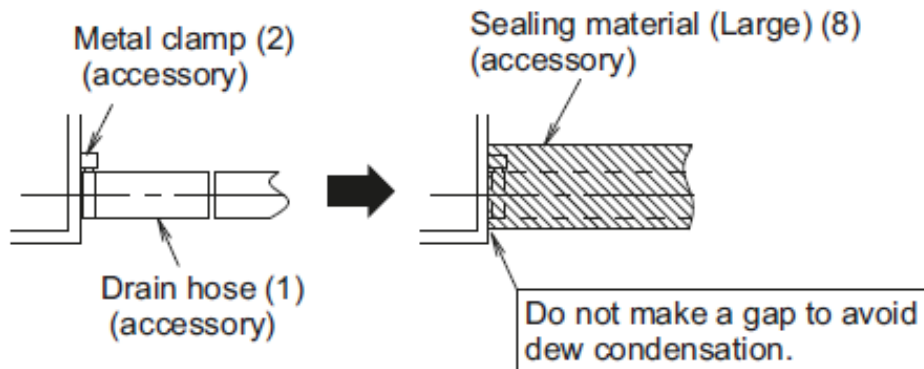
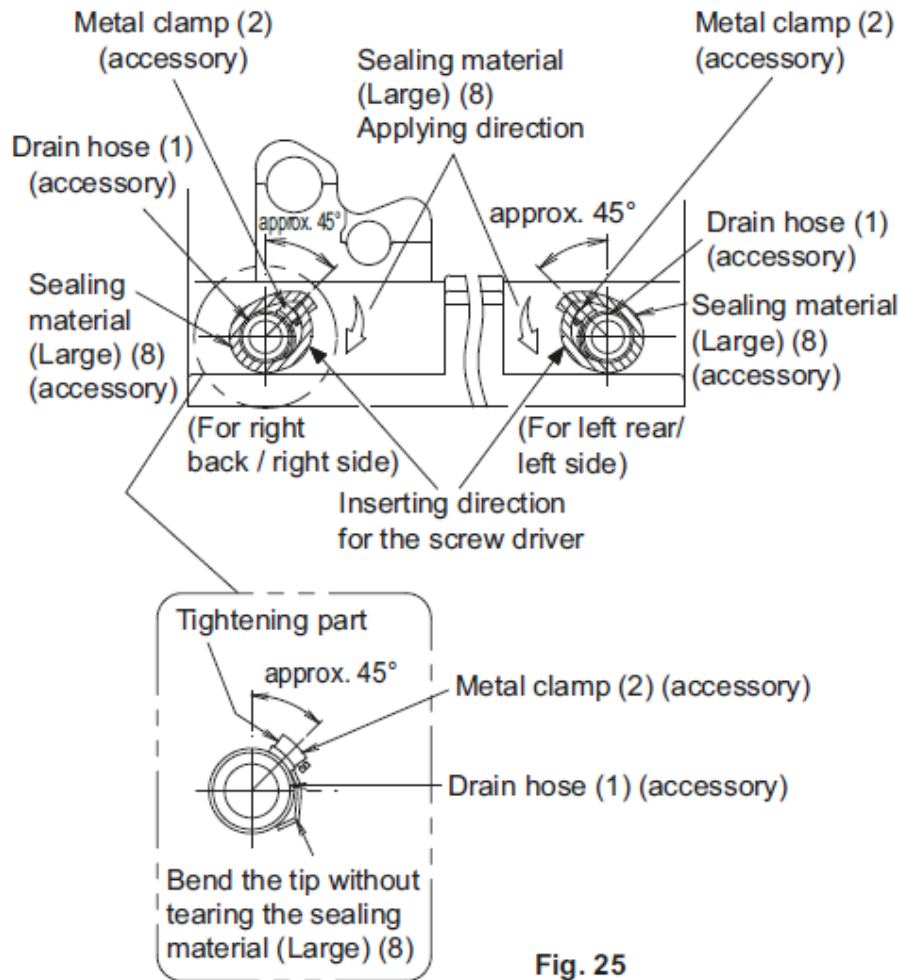

Fig. 24
Fig. 25
- Make sure to use the attached drain hose and metal clamp. Also, insert the drain hose into the root of the drain socket, and tighten the metal clamp at the root of the drain socket tightly. (Refer to Fig. 24 and Fig. 25)
- Install the metal till the tightening part is in the range of about 45° as shown in the Fig. 25
- Bend the tip of the metal clamp so that the sealing material does not bulge. (Refer to Fig. 25)
- When performing insulation, wind the large sealing material (Large) attached starting from the base of the metal clamp and drain hose in the direction of the arrow. (Refer to Fig. 24 and Fig. 25)